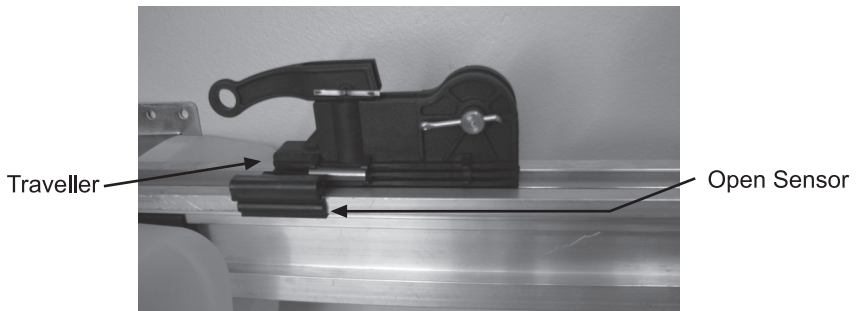

Figure 6A
2. Referring to Fig. 6A, move the "OPEN" sensor (sensor closest to the motor head) until it aligns with the traveler assembly.